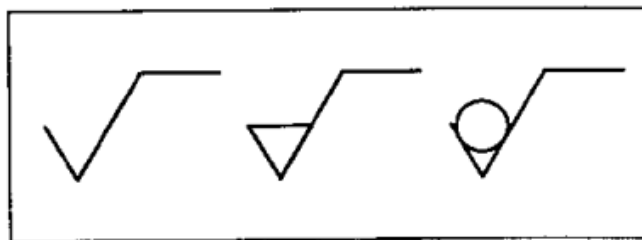

FIGURE 3.5 EXTENSION FOR SYMBOLS FOR SPECIAL SURFACE CHARACTERISTICS
**3.2.3 Extension of symbols** When special surface characteristics are to be indicated (see Clause 3.4), the symbols shown in Figures 3.1, 3.3 and 3.4 may be extended by adding a line of appropriate length to the long leg, as shown in Figure 3.5.